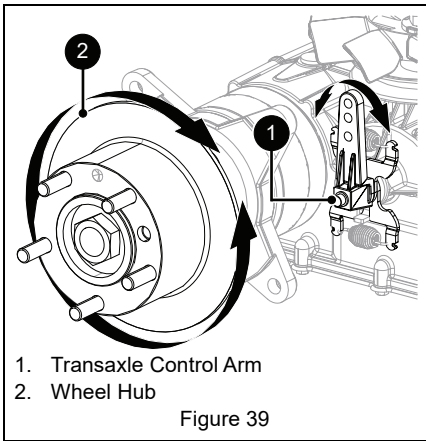

Figure 39
7. **Technician:** Slowly turn transaxle control arm in the opposite direction of hub rotation until hub stops. See Figure 39.